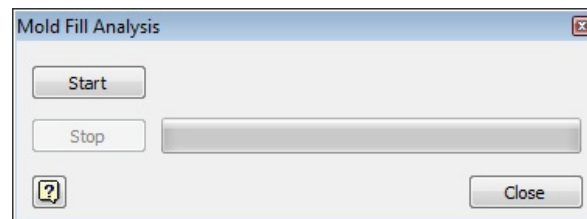

Figure 19-97 The Mold Fill Analysis dialog box
1. Choose the **Mold Fill Analysis** tool from the **Mold Simulation** panel in the **Mold Layout** tab of the **Ribbon**; the **Mold Fill Analysis** dialog box is displayed, as shown Figure 19-97.
Create the mold system for the component shown in Figure 19-97. The part file for this component has been created in Tutorial 3 of Chapter 6. (**Expected time: 1hr**)